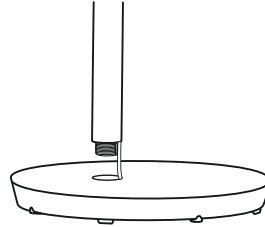

Fig. 2
2. Align the Base Pole and Insert it to the opening on the Base properly (Fig 2)